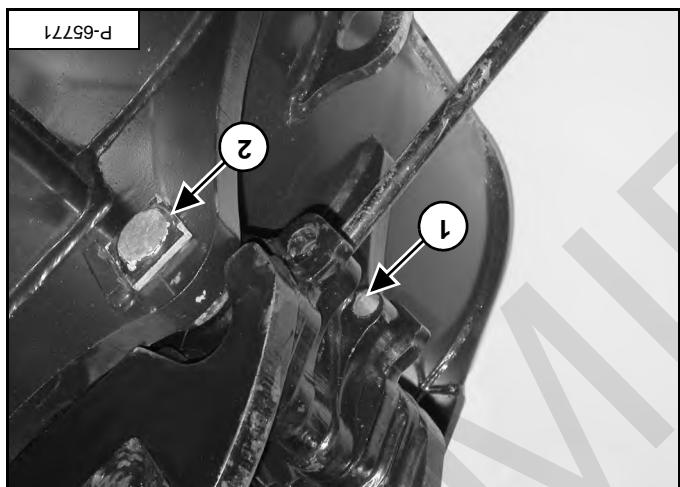

Figure 95
Rotate the locking hooks (item 1) downward, cupping (engaging) the attachment pin (item 2) [Figure 95].